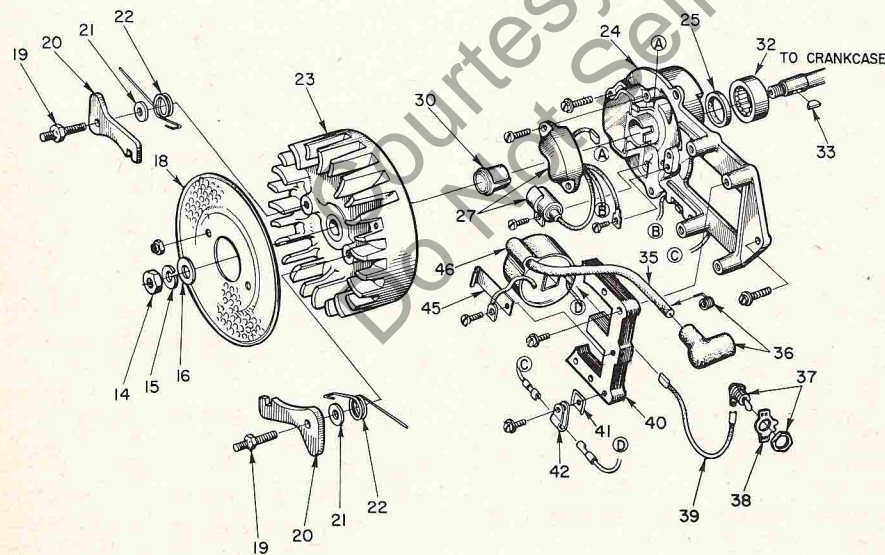

**Fig. HL83—Assembled view of the solid state (breakerless) model XL-850 magneto. Refer to Fig. HL82 for exploded view and legend. "G" indicates ground terminals.**
**MODEL XL-850.** The model XL-850 is equipped with a Wico breakerless solid state magneto; refer to exploded view of magneto in Fig. HL82 and to assembled view in Fig. HL83. Note: Refer to FUNDAMENTALS section for solid state magneto operation.
Visually inspect rotor (flywheel) for damage. Check for broken or frayed wires and make sure the terminal (42—Fig. HL83) is not shorted out to magneto ignition coil armature.
**Fig. HL82—Exploded view of solid state (breakerless) type flywheel magneto used on model XL-850. Refer also to Figs. HL83, HL84 and HL85. Refer to Fig. HL81 for conventional type magneto used on models XL-700 and XL-800.**
When reassembling magneto, check back plate and remove any sharp edges, especially where wires may contact the back plate. Be sure the "D" washer (41—Fig. HL82) securing the plastic clamp (42) is correctly positioned. Be sure all leads are in place as shown in Fig. HL83 and with terminal connection (42) parallel with armature core. Be sure the back plate is clean and check all screws for tightness. If there is any doubt about the strength of the rotor (flywheel) magnets, install a new flywheel; be sure to remove "keeper" plates from new flywheel before installing it.